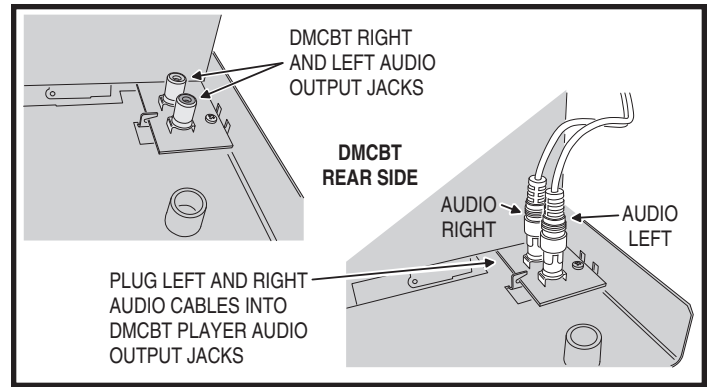

Figure 24. DMCBT Bluetooth Player Audio Cable Connection
8. Insert the player audio cable's BLACK RCA plug into the AUDIO LEFT jack on the DMCBT Bluetooth Player, then insert the cable's RED RCA plug into the AUDIO RIGHT jack on the DMCBT Bluetooth Player (see Figure 24).